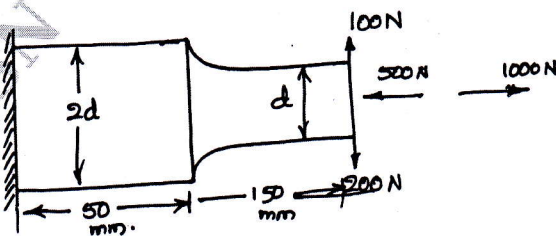

Fig Q3
- 3 A steel cantilever member shown in Fig Q3 is subjected to an axial load that varies from 500N compression to 1000N tension and to a transverse load at its free end that varies from 100N up and 200N down. Determine the required diameter of the section using a factor of safety 2. The strength properties of the material are  $\sigma_u = 550\text{MPa}$ ,  $\sigma_y = 480\text{MPa}$ ,  $\sigma_{-1} = 270\text{MPa}$ . Neglect the column action and notch effect. (20 Marks)